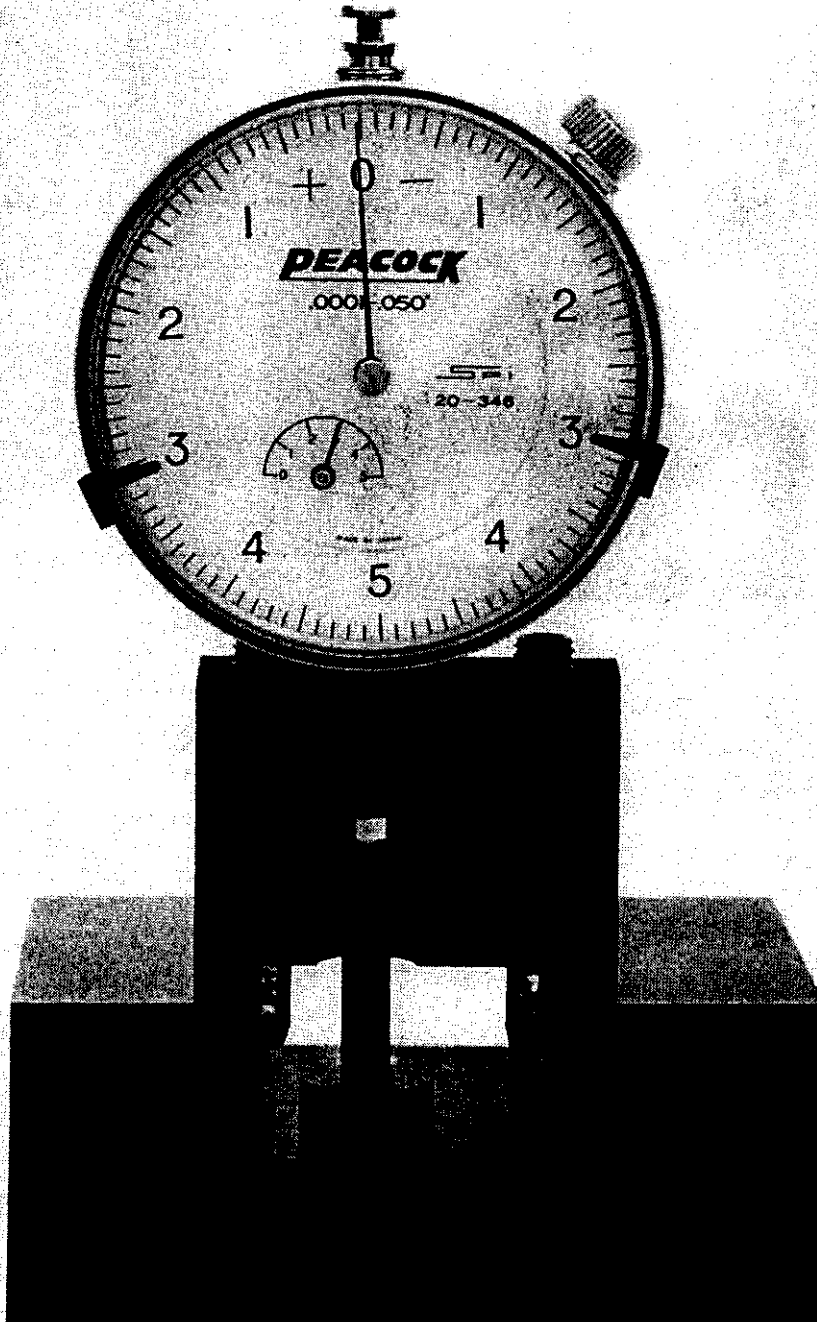

FIGURE 40. DIAL INDICATOR
- b. Set up the penetration dial indicator on the penetration tool master. Check penetration tool to make sure it's indicating surfaces are clean and properly set; (long hand on zero and small hand on three) while it's resting on the penetration tool master. See Figure 40.